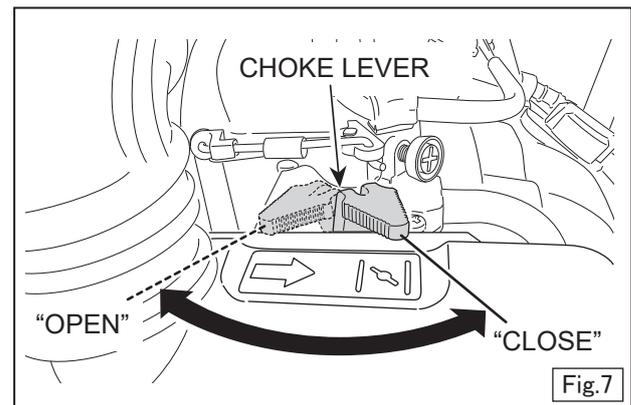

Fig.7
3. Move the choke lever on the carburetor to the closed position. When it is cold, close the choke all the way. When it is hot, such as in the summer, or when the engine is already hot, open the choke a little or leave it fully open. (Fig.7)